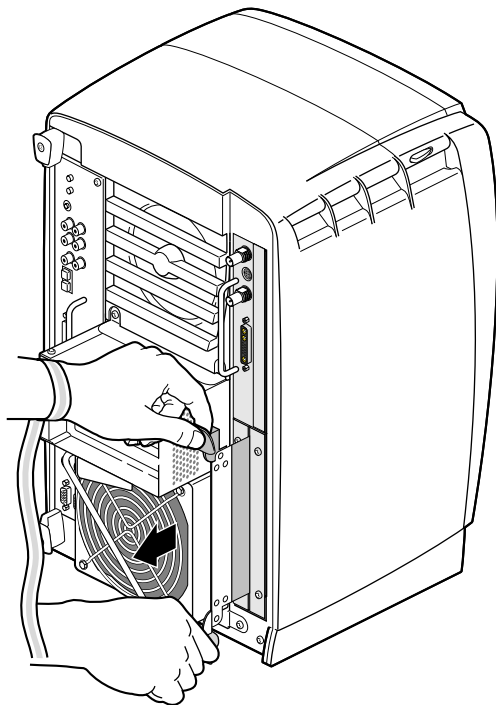

Figure 1-7 Unlatching the XIO Tri-Module
2. Grasp the plastic knobs and pull until the XIO Tri-Module latching board protrudes about an inch (2.5 cm) from the chassis, as shown in Figure 1-7.